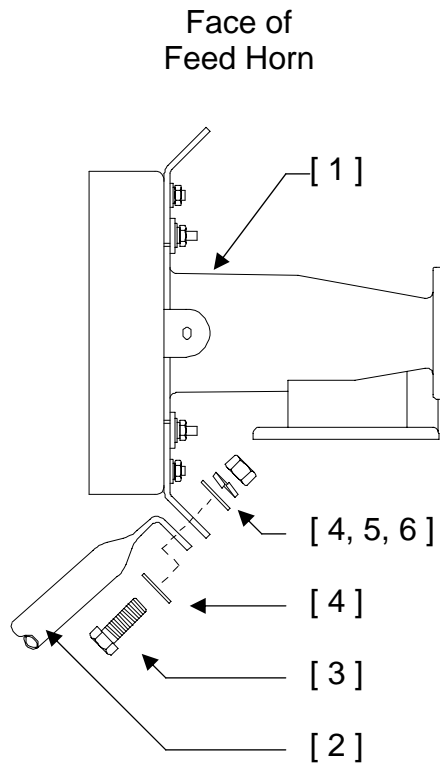
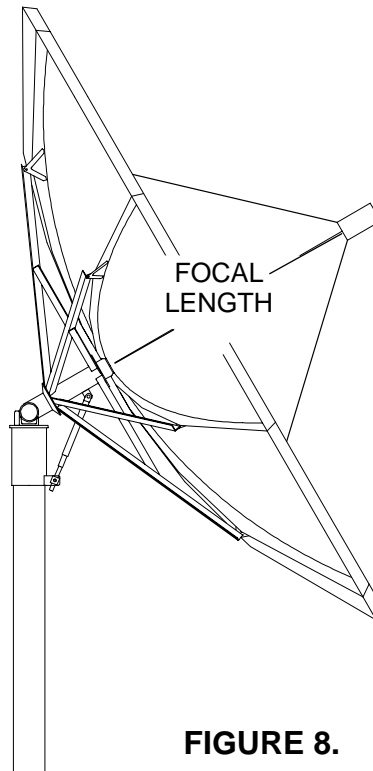

FIGURE 5.
FIGURE 8.
- 1. FOCAL LENGTH** - As shown in figures 5 thru 7, attach the feed horn assembly to the four feed rods with the same 3/8" hardware as above. (For ku-band single pol only, insert the feed cover tab (item #7) between the feed horn and the 3/8" nut). Tighten the four bolts securely at this time. Check the focal length by measuring from the face of the feed horn to the reflector cover plate as shown in figure 8. If the focal length is incorrect, adjust the feed clevises in or out at the reflector surface as needed. Be sure that the clevises are adjusted equally. When the focal length is correct, tighten all feed support and clevis hardware securely. The focal lengths are: 46-7/8" for the 3.4M and 54" for the 3.7M. The F/D ratios are: .35 for the 3.4M, and .37 for the 3.7M.